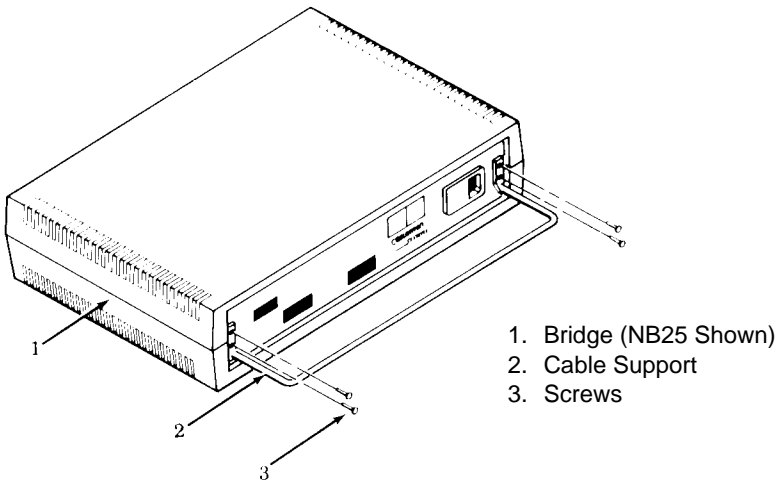

Figure 3-2 Cable Support Installation
1. Remove the four cable support screws (3, Fig. 3-2) from the bridge (1).
2. Attach the cable support (2) to the rear of the bridge using the screws removed in step 1.
When power connection is complete, use the cable ties that are provided to strain-relief all cables to the cable support (2, Fig. 3-2) to relieve unnecessary pressure at cable connection points.